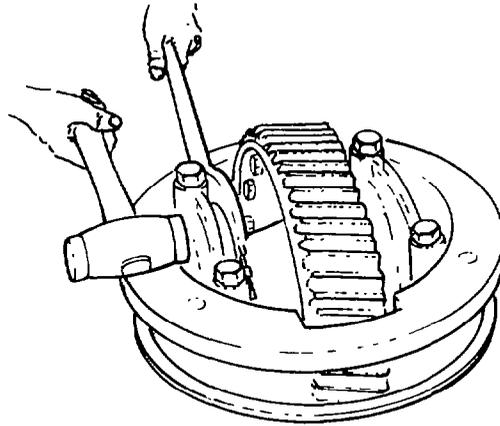

Fig. 336 — Pre-loading Bearing
- o. Position the differential bearing adjustment fixture (Tool No. J-26440) on the carrier housing. Lubricate the bearings with OEP-220 gear oil. Then while turning the differential assembly, adjust the right-hand bearing adjusting nut with tool no. J-26437 until the bearings have a slight pre-load. Relieve the bearing preload by hitting the bearing cap with a plastic mallet as shown in fig. 336.